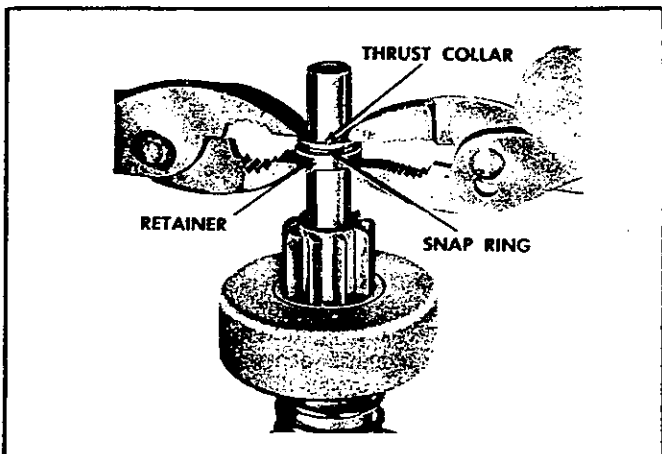

Fig. 132—Forcing Retainer over Snap Ring
- c. To force the retainer over the snap ring, place a suitable washer over the shaft and squeeze the retainer and washer together with pliers (Fig. 132).